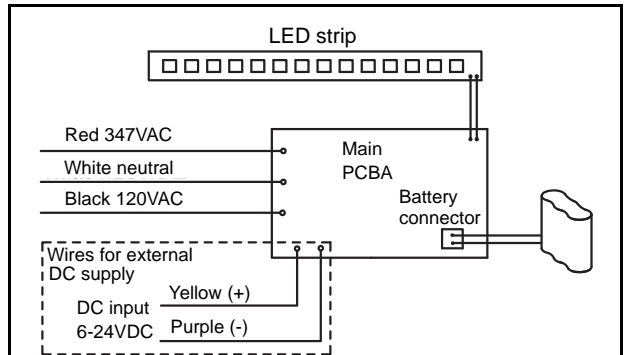

Figure 6
4. Make the proper connections (see figure 6):
5. For universal AC/DC models: connect wires for external DC supply (see figure 6)